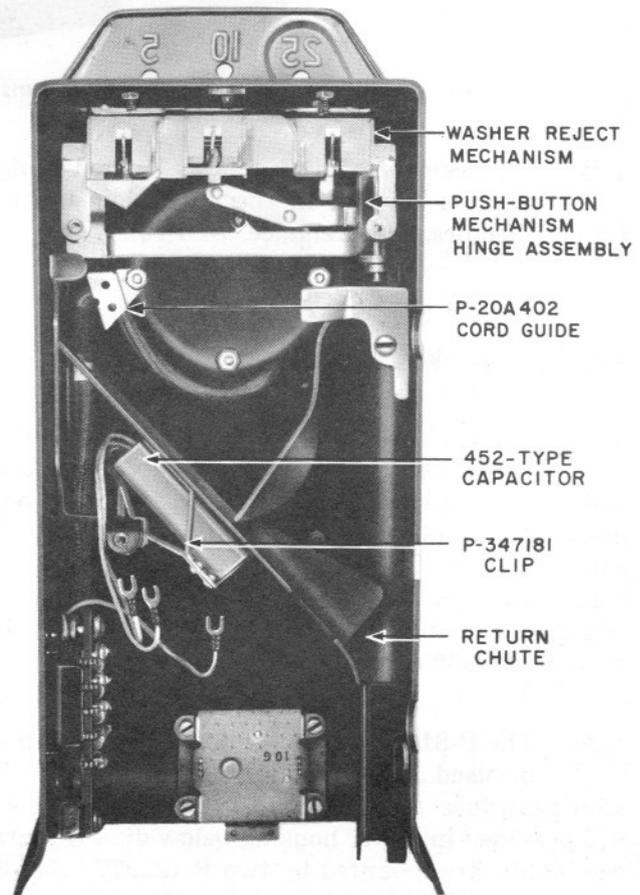

Fig. 10 — Upper Housing, Interior View
When provided, the washer rejector and associated coin-release push-button mechanism are also riveted or permanently attached to the upper housing and are an integral part of the assembly, as shown in Fig. 10.
4.10 Coin collectors using coin-chute assemblies equipped with a P-349754 gong assembly have the 452-type capacitor, which is associated with the electromagnet, mounted on the upper housing underneath the coin chute with a P-347181 clip as shown in Fig. 10.